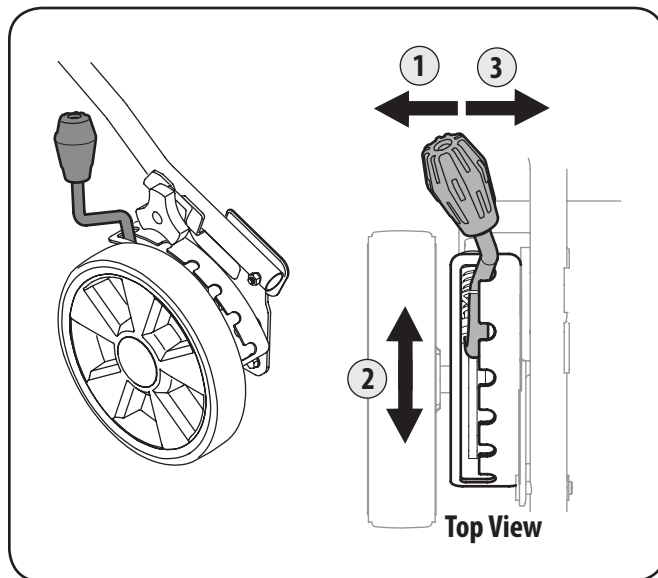

Figure 3-1
The cutting height adjustment lever is located above the rear right wheel. See Fig. 3-1.
1. Raise the cutting height adjustment to the highest setting. See Fig. 3-1.